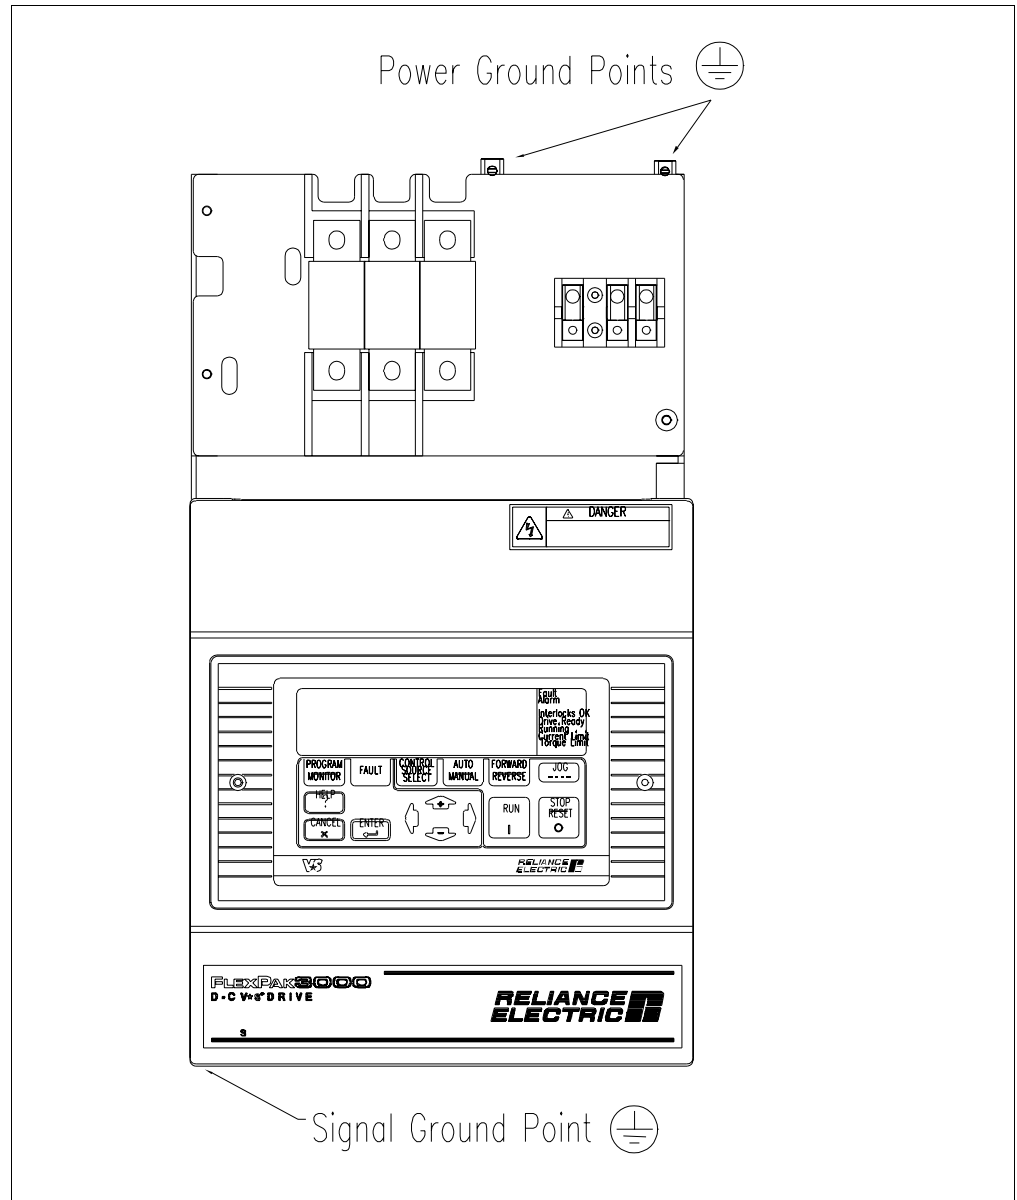

Figure 2.8 – Drive Control and Power Ground Point Locations (1.5 to 30 HP @ 230 VAC / 3 to 60 HP @ 460 VAC / 7-110 Amp Rated Output)
- Step 1. Locate the drive ground points as shown in figures 2.8 through 2.13.